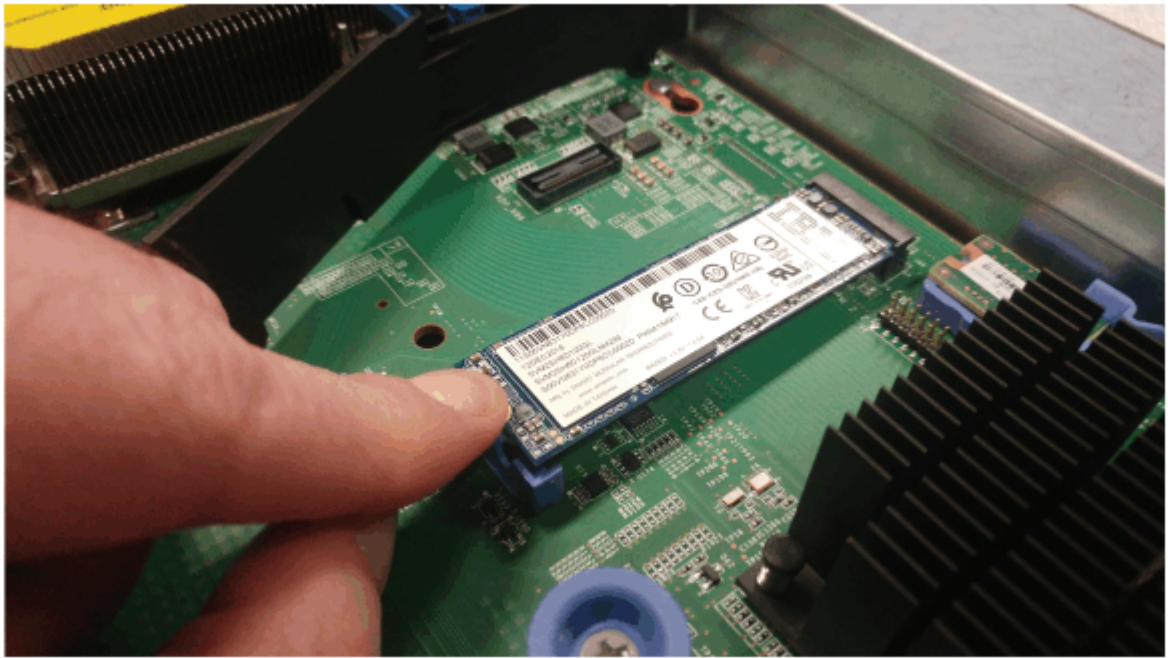

Figure 93. Replacing the boot drive
10. Hold the new boot drive from slot 2 at a 25 degree angle, as shown in Figure 93 on page 146. Then, gently slide the drive into the connector until it stops.